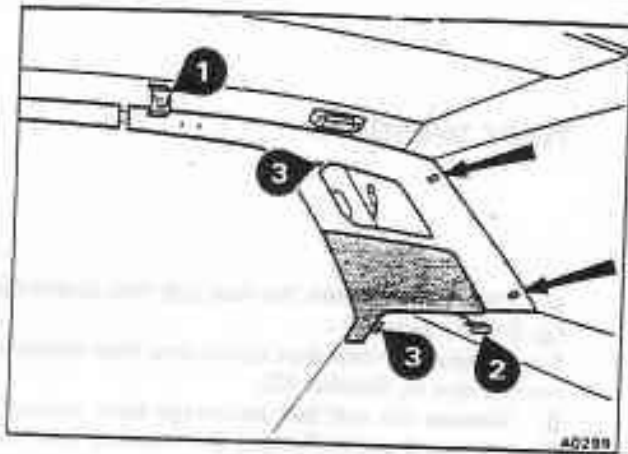

Fig. S11-3 Cantrail/quarter (two-piece)
10. Remove the flexible outer covers from the coat hooks on the cantrail trim panels (item 2). Release the screws and remove the hooks. On cars fitted with a two-piece cantrail trim panel remove the stainless steel finisher situated underneath the coat hook (see fig. S11-3, item 1).
On cars fitted with a two-piece cantrail trim panel proceed as follows (see fig. S11-3).